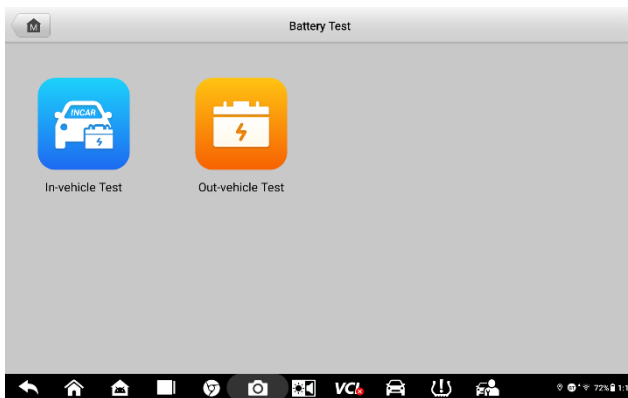

Figure 7-3 Battery Test Screen
1. Tap the **Battery Test** application on the OTOFIX Job Menu. The Battery Test screen displays (see Figure 7-3 Battery Test Screen).